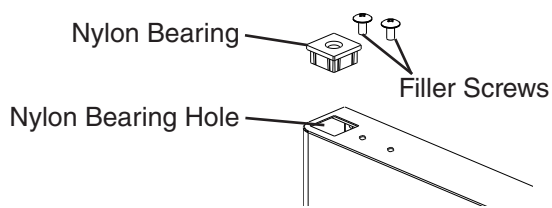
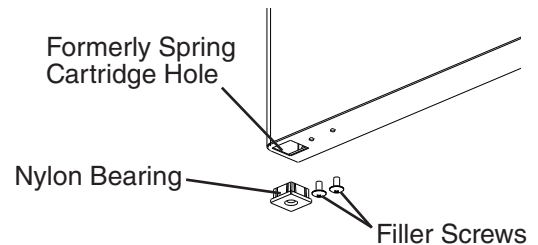

Fig. 20
Fig. 21
- 7) Rotate the door 180 degrees, to its new orientation. Remove the nylon bearing and filler screws. See Fig. 20. **NOTICE! Care should be taken not to damage the door.** Mount the nylon bearing and filler screws into the holes left by the spring cartridge in the lower section of the door. See Fig. 21.